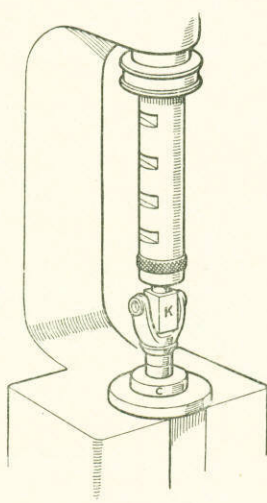

Fig. F-25—
4. Place the roller race inner member and a new retaining collar over the half shaft with the chamfer towards the splined end; stand the shaft on end and press the race inner member and collar on to the shaft until the race inner member abuts the conical distance piece. The necessary press blocks C and K, Part No. 245178, are illustrated at Fig. F-25.